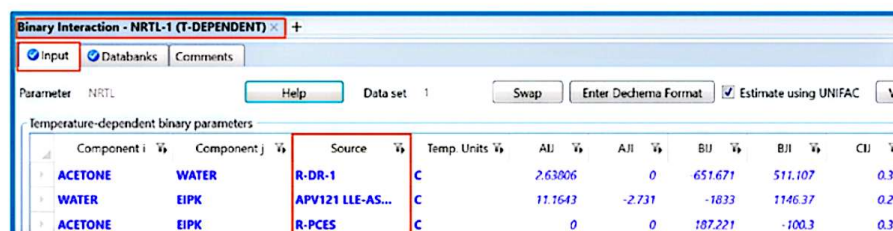

Figure 2.27 The binary interaction parameters for acetone–water system based on the regression step (R-DR-1).
- After successfully completing the regression step, click on “**Yes to all**” button appearing in the pop-up window to replace the existing binary interaction parameters with the newly regressed ones, for water–acetone system as shown in Figure 2.27.